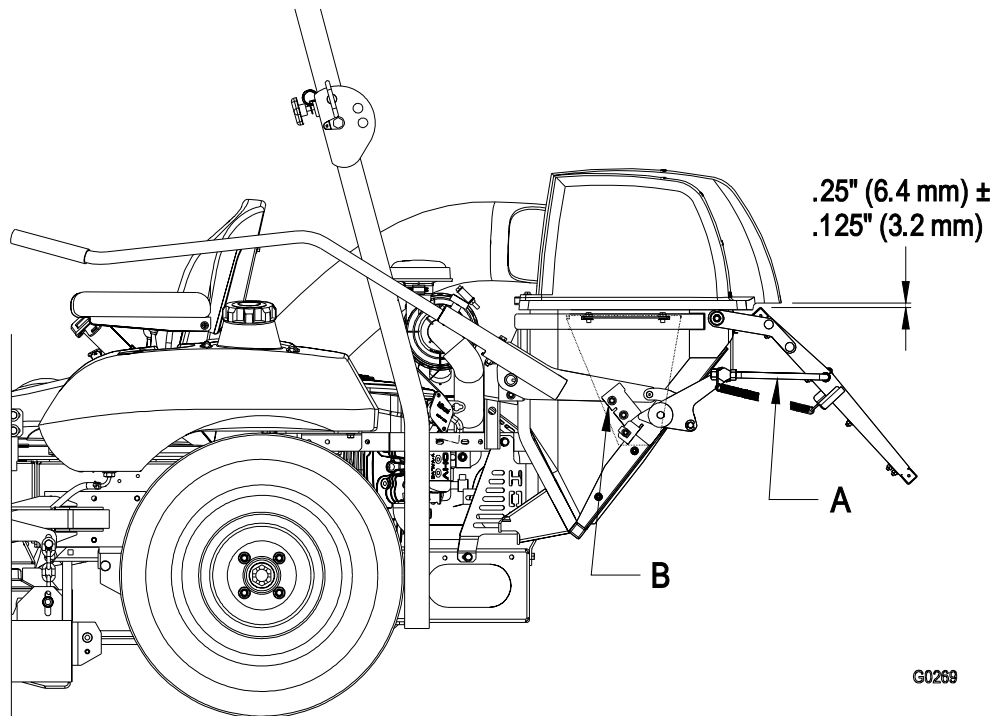

FIGURE 10
- 3.7.2 **Door closing:** The closing of the door is controlled by the two hinge links (Figure 10 – A). The length of the hinge links can be changed to provide complete closing of the door and reasonable force on the handle to latch or unlatch the door. Lengthen the links to reduce the force. Shorten the links to increase the force. The left and right sides must be approximately equal. With the door closed, both links should be slightly tight to minimize rattling.
- 3.7.3 **Door opening:** After adjusting the hinge links for door closing, the hinge stops (Figure 10 – B) can be adjusted to obtain maximum door opening. The stop plates should be adjusted so that the door link contacts them when the upper tube of the door frame is within $.25'' (6.4 \text{ mm}) \pm .125'' (3.2 \text{ mm})$ from the lower lip of the molded hood. Both left and right stops must make contact when the door link arm is at this position.
- 5.2.2 **Door closing:** The closing of the door is controlled by the two hinge links (Figure 10 – A). The length of the hinge links can be changed to provide complete closing of the door and reasonable force on the handle to latch or unlatch the door. Lengthen the links to reduce the force. Shorten the links to increase the force. The left and right sides must be approximately equal. With the door closed, both links should be slightly tight to minimize rattling.
- 5.2.3 **Door opening:** After adjusting the hinge links for door closing, the hinge stops (Figure 10 – B) can be adjusted to obtain maximum door opening. The stop plates should be adjusted so that the door link contacts them when the upper tube of the door frame is within .25" (6.4 mm) ± .125" (3.2 mm) from the lower lip of the molded hood. Both left and right stops must make contact when the door link arm is at this position.